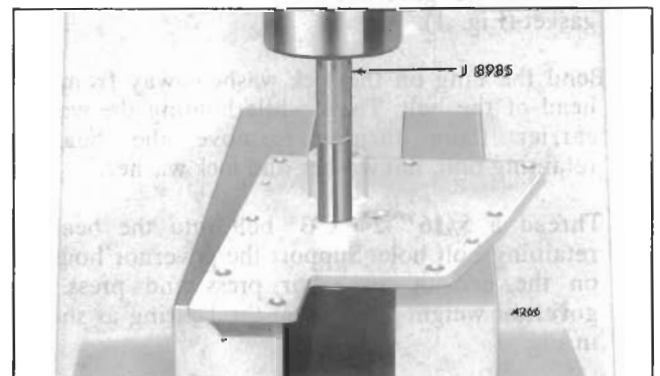

Fig. 6 - Removing Stop Lever Shaft Bushings from Governor Cover.
- h. Remove the bushing or bearings from the stop lever shaft opening using remover J 8985 as shown in Fig. 6.